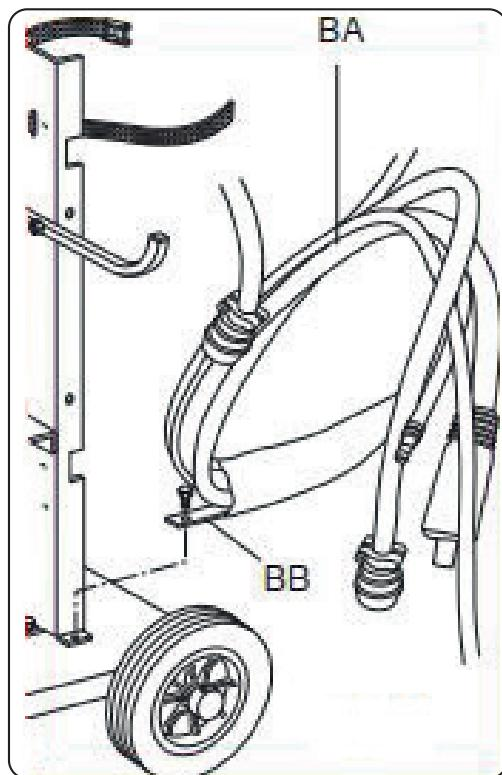

Fig. 3
- ♦ Block one end of connection BA, by fixing the tab BB to the bottom of the machine (see fig. 3).